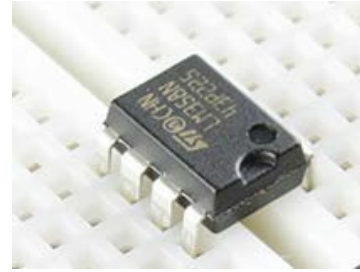

Figure 1.2 – Op-Amp Positioning on Breadboard
**Note:** The Op-Amp must be positioned as shown in **Figure 1.2** so that the pins do not short.